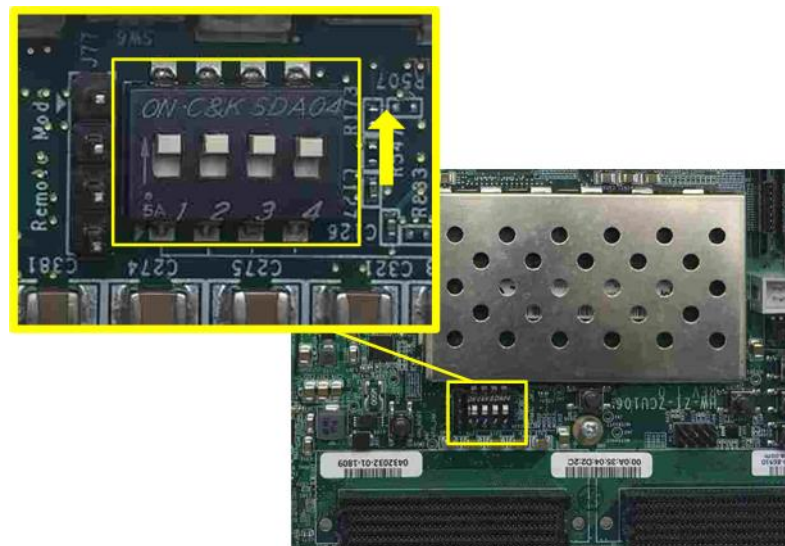

Figure 2-2 SW6 setting to configure PS from JTAG on ZCU106
- b) For ZCU106 board, set SW6=all ON to configure PS from JTAG, as shown in Figure 2-2.